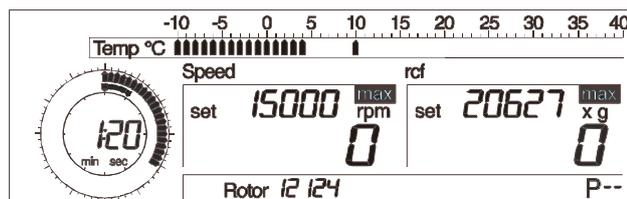

Abb. 5.18:
- If the set temperature is above the actual temperature, it will be represented by one single bar on the temperature scale (Fig. 5.18).